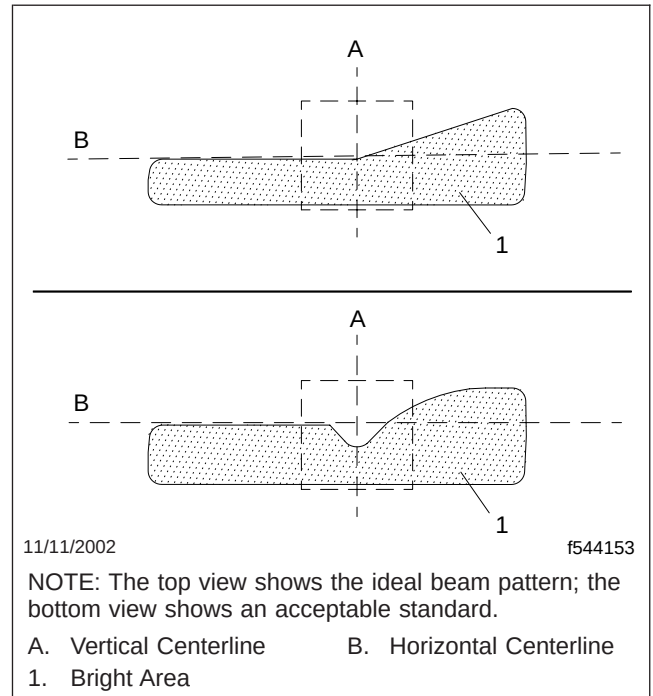

Fig. 14.3, Headlight Beam Patterns
5. Turn on the headlights to the low-beam setting. See Fig. 14.3 for the ideal and acceptable patterns for both headlights.
and turn both adjusting knobs the same amount, as needed to adjust the lights until the beam pattern meets the acceptable standard in Fig. 14.3. Turn the knobs clockwise to raise the beam and counterclockwise to lower it.